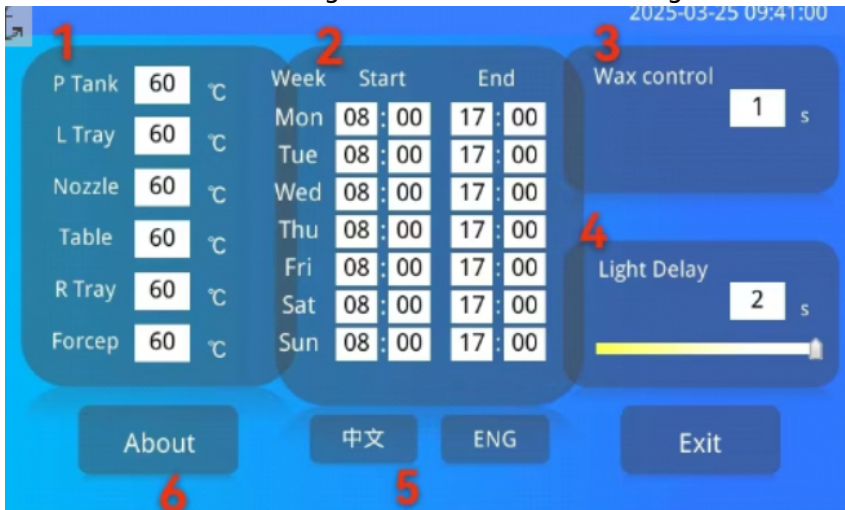

Figure 6
4. Settings. Click on the settings icon to enter the settings interface, which is divided into 5 areas: 1. temperature setting, 2. 7*24-hour timer, 3. wax output control, 4. lighting delay, 5. Chinese and English, and 6. About. The settings interface is shown in Figure 6